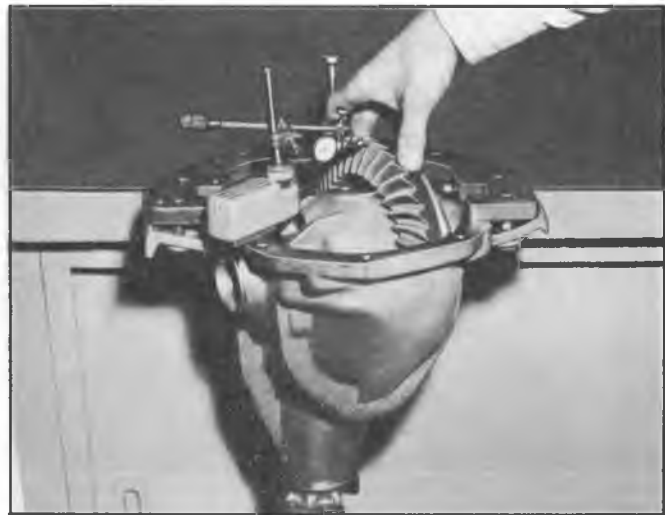

Fig. 25C--Checking Backlash
17. Mount a dial indicator on the carrier and check backlash between the ring gear and pinion, as shown in Figure 25C. Backlash should be within the range of .003" to .010" with a reading of .005" to .008" preferred. Check reading at four equally spaced positions around the ring gear. Variation in reading should not exceed .002".